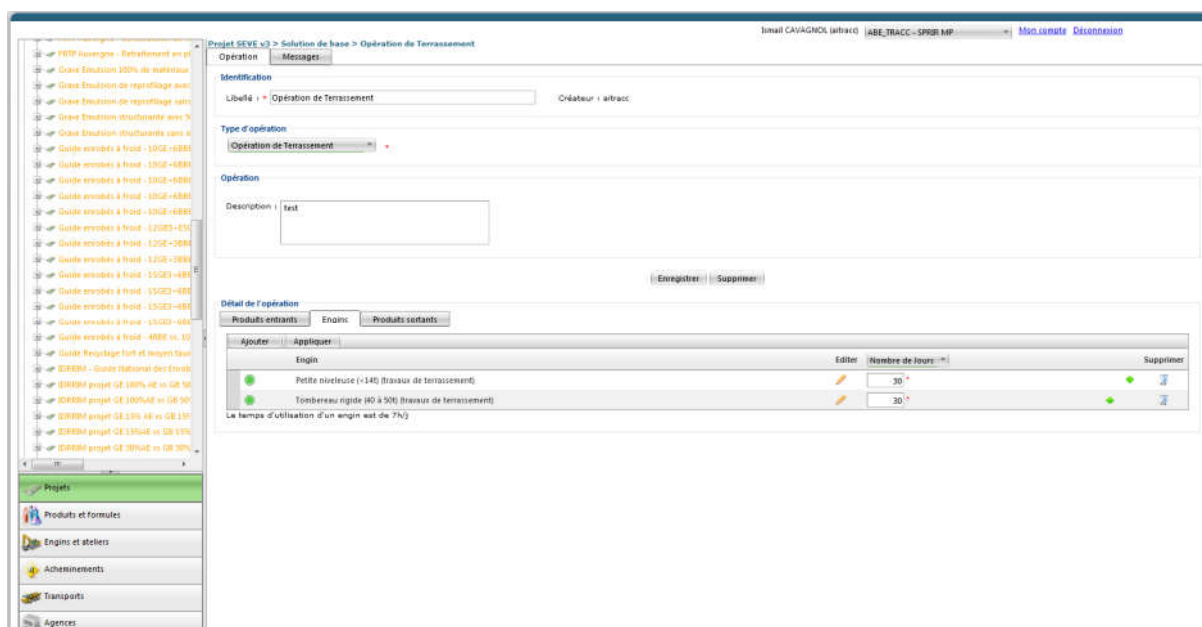

Figure 53 – Information on the number of days or hours of use on the entire site
- 25- After selecting the different machines, "Click" on "Add" (Figure 53)